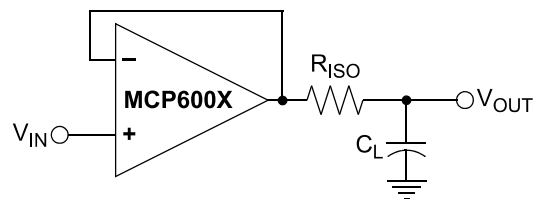
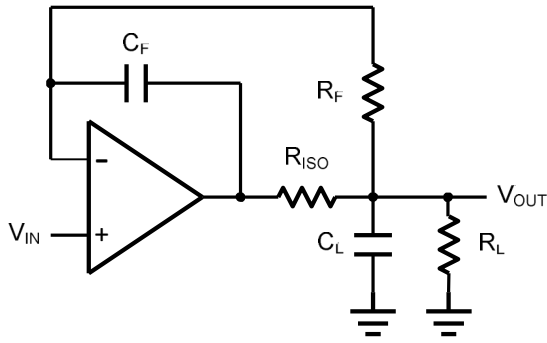

Fig. 2. Indirectly Driving a Capacitive Load Using Isolation Resistor
Fig. 3. Indirectly Driving a Capacitive Load with DC Accuracy
The MCP6001 family is optimized for bandwidth and speed, not for driving capacitive loads. Output capacitance will create a pole in the amplifier's feedback path, leading to excessive peaking and potential oscillation. If dealing with load capacitance is a requirement of the application, the two strategies to consider are (1) using a small resistor in series with the amplifier's output and the load capacitance and (2) reducing the bandwidth of the amplifier's feedback loop by increasing the overall noise gain. Figure 2 shows a unity gain follower using the series resistor strategy. The resistor isolates the output from the capacitance and, more importantly, creates a zero in the feedback path that compensates for the pole created by the output capacitance.
The circuit in Figure 3 is an improvement to the one in Figure 2. RF provides the DC accuracy by feed-forward the VIN to RL. CF and RISO serve to counteract the loss of phase margin by feeding the high frequency component of the output signal back to the amplifier's inverting input, thereby preserving the phase margin in the overall feedback loop. Capacitive drive can be increased by increasing the value of CF. This in turn will slow down the pulse response.